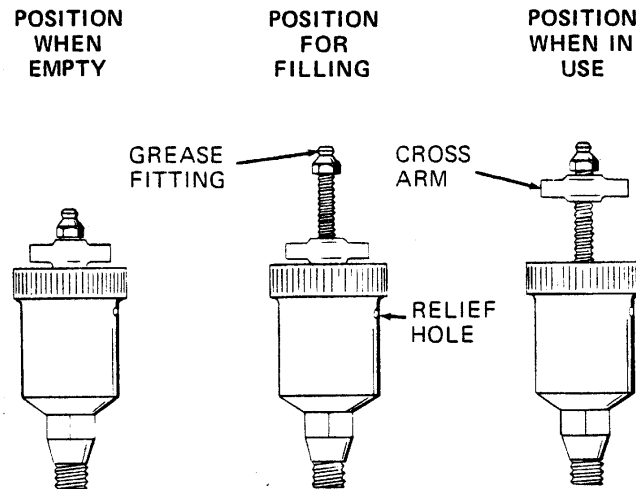

Figure 3. Automatic Lubricating Grease Cup
Before removing the seal assembly, turn the cross arm on the seal grease cup (21) clockwise until it rests against the cover (see figure 3). This will prevent the grease in the cup from escaping after the seal is removed.
Before starting the pump, fill the grease cup through the grease fitting with a good grade of No. 2 pressure gun grease until grease escapes from the relief hole. Turn the grease cup arm counterclockwise until it is at the top of the stem; this will release the spring to apply the grease to the seal (see figure 3).